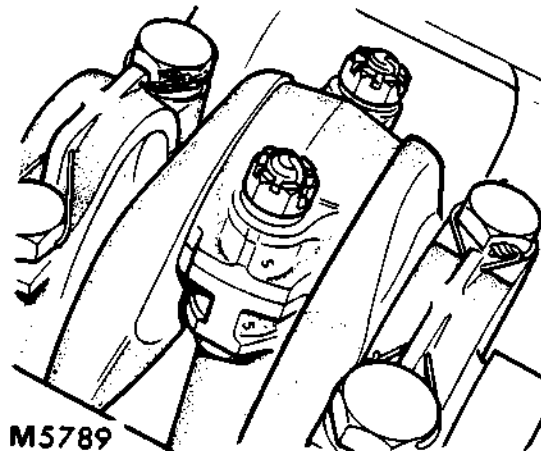

FIG. 4. CONNECTING ROD AND CAP IDENTIFICATION NUMBERS
4. Locate rod and cap bearing shells correctly and fit caps ensuring that identification numbers stamped on sides are the same and adjacent as shown in Fig. 4.